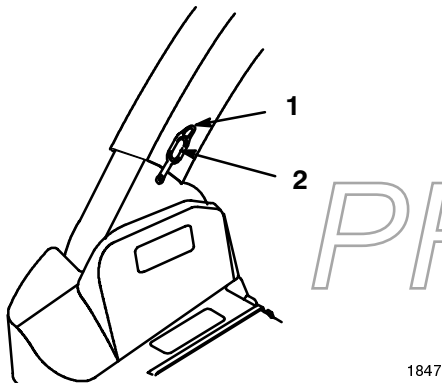

Figure 21
1. Insert the upper end of the discharge tube into the bagger top. Slide the lower end of the discharge tube over the blower discharge opening (Fig. 21).
2. Hook the rubber latch onto the knob (Fig. 21).